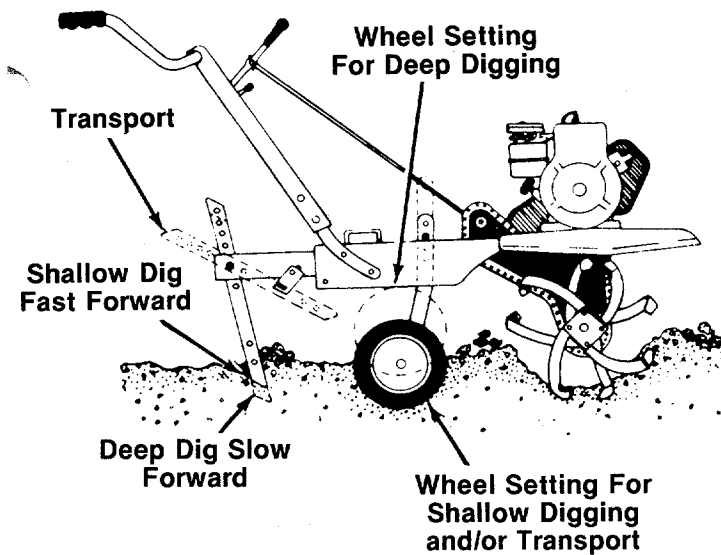

FIGURE 17.
- Depth Bar Adjustment:** The depth bar acts as a brake for the tiller and controls the depth and speed at which the machine will operate. See figure 17. Remove the clevis pin and spring pin to raise or lower depth bar.